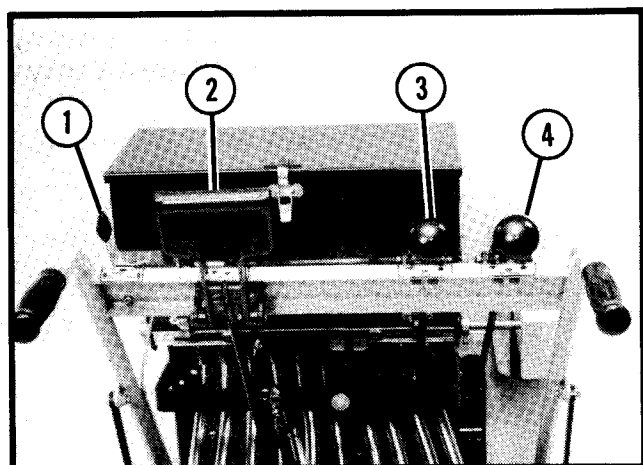

Figure 2. Handle Controls
Throttle (See Figure 2, item 1)
Lifting Lever (See Figure 2, item 2)
Drive Lever (See Figure 2, item 3)
Reel Lever (See Figure 2, Item 4)